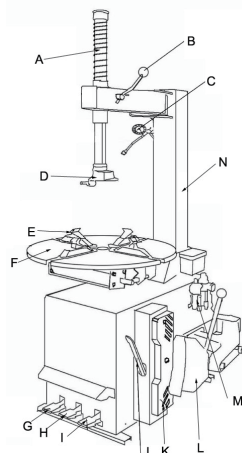

Fig. 1
- Please refer to Fig. 1 to check if the equipment is in perfect condition, ensuring that no parts are damaged or missing.